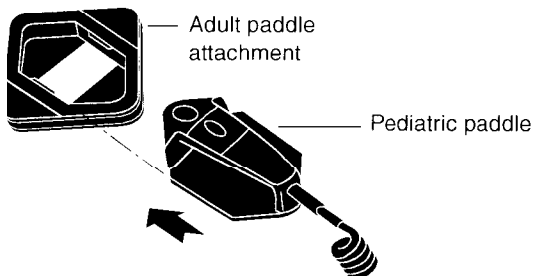

Figure 5-11 Replacing a Pediatric Paddle
- 3 Slide the paddle handle forward until you hear a click. (See Figure 5-11.)